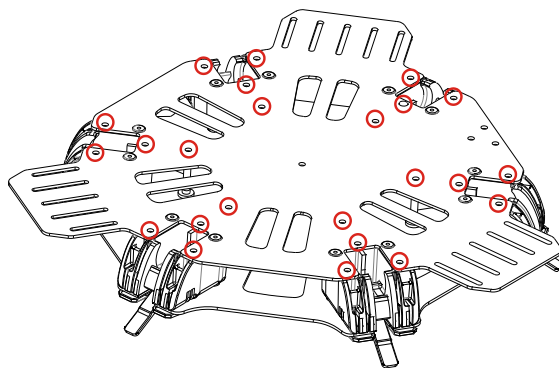

Fig.3 Fix the screws
5. (Fig.3) Please fix all the screws to bottom board, and use adequate thread locker.